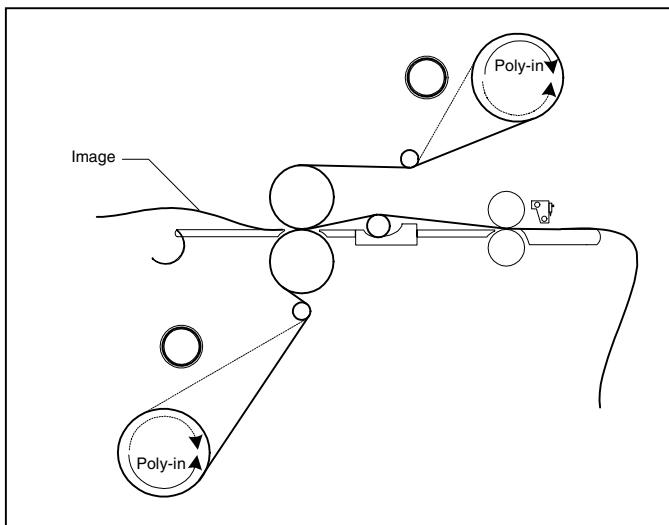

Fig. 42
TIPS FOR THERMAL ENCAPSULATION (Figure 42)
1. Load the laminator as illustrated in Figure 42 for Poly-in film.